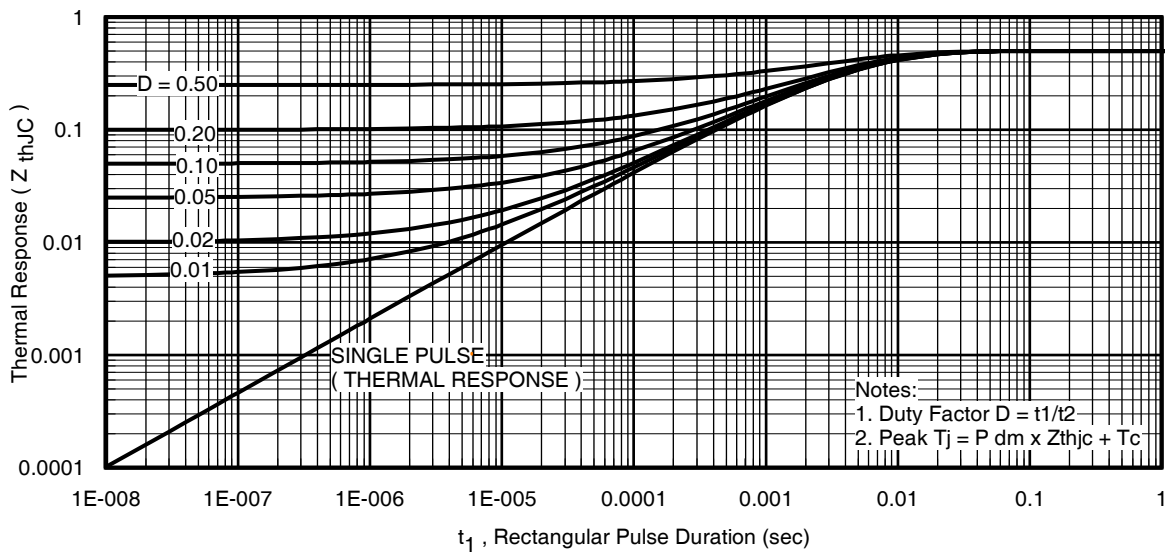

Fig 11. Maximum Effective Transient Thermal Impedance, Junction-to-Case
- ① Repetitive rating; pulse width limited by max. junction temperature. (See fig. 11).
- ② Limited by T_{Jmax} , starting $T_J = 25^\circ\text{C}$, $L=0.24\text{mH}, R_G = 25\Omega, I_{AS} = 75A, V_{GS} = 10V$. Part not recommended for use above this value.
- ③ $I_{SD} \leq 75A, di/dt \leq 220A/\mu s, V_{DD} \leq V_{(BR)DSS}, T_J \leq 175^\circ\text{C}$.
- ④ Pulse width $\leq 1.0\text{ms}$; duty cycle $\leq 2\%$.
- ⑤ $C_{oss\text{ eff.}}$ is a fixed capacitance that gives the same charging time as C_{oss} while V_{DS} is rising from 0 to 80% V_{DSS} .
$Z_{thJC}(D, t_{av})$ = Transient thermal resistance, see figure 11)